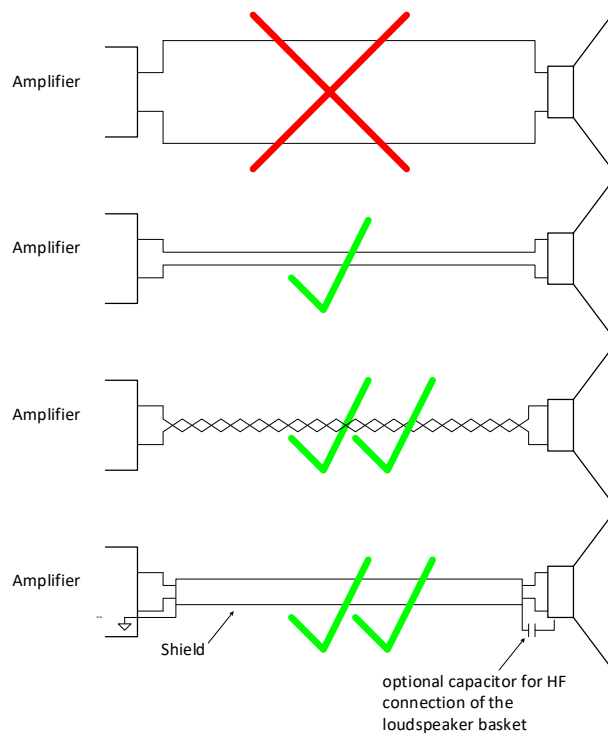

Figure 18 : Avoid wire loops on the speaker wires
- Avoid wire loops on the speaker output wires. Use wires closely paired side by side or if required use twisted or shielded cables (Figure 18)